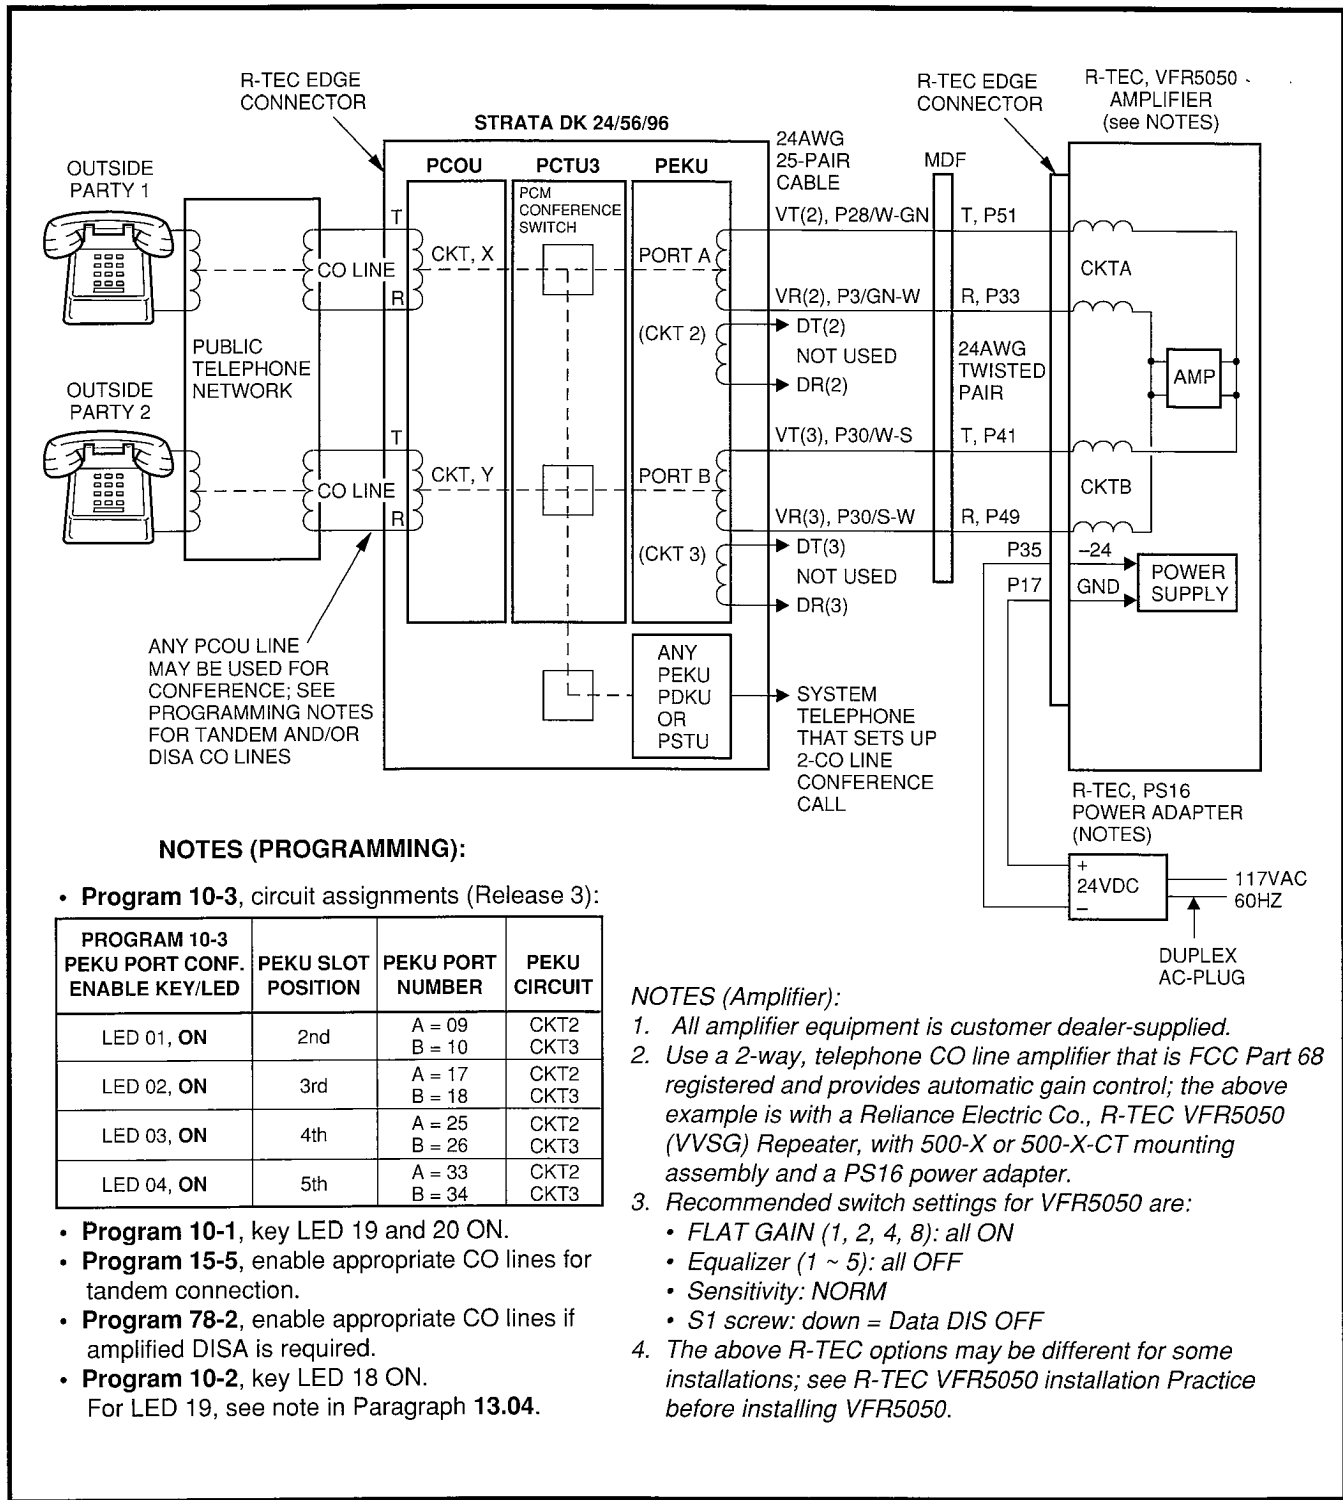

FIGURE 8-40—AMPLIFIED TWO-CO LINE CONFERENCE AND/OR AMPLIFIED DISA FUNCTIONAL WIRING DIAGRAM
13.02 Amplified Talk Path. Figure 8-40 provides a functional diagram of a two-CO line amplified conference connection (an R-TEC VFR5050 amplifier is used here). The talk path for the connection is as follows: outside party 1—public telephone network—PCOU, CKTX—PCTU3—PEKU, port A—into AMP, CKTA—Out AMP, CKT B—PEKU, port B—PCTU3—PCOU, CKTY—public telephone network—outside party 2. This path is two-way so when outside party 2 talks, the talk level is amplified in the reverse direction.
13.04 Installation: Connect a two-way amplifier to the STRATA DK system in accordance with the following steps (see Figures 8-40 and 9-24).
- 1) At the main distribution frame (MDF), connect the voice pair (VT, VR, port A) of circuit 2 on the designated PEKU PCB to one input of the customer-supplied two-way amplifier. In the example in Figure 8-40, this is CKTA (Central Office Side A) of the VFR5050.
- 2) At the MDF, connect the voice pair (VT, VR, port B) of circuit 3 on the designated PDKU PCB to the other input of the amplifier. In the Figure 8-40 example, this is CKTB (subscriber side B) of VFR5050.